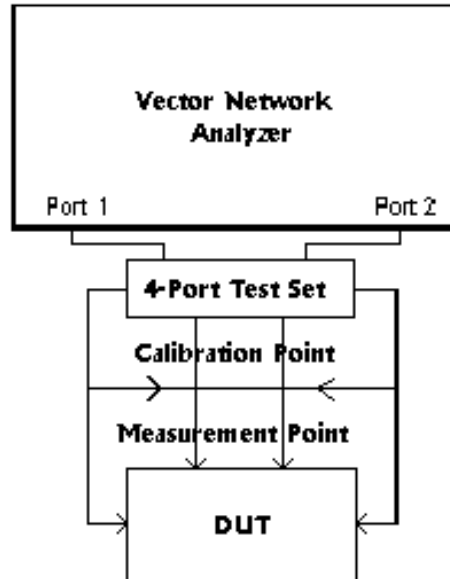

Figure 1 Electrical Test Schematic
- 5.2.1 The electrical test set-up for paragraph 5.4.1 through 5.4.6 shall be configured as depicted in Figure 1.